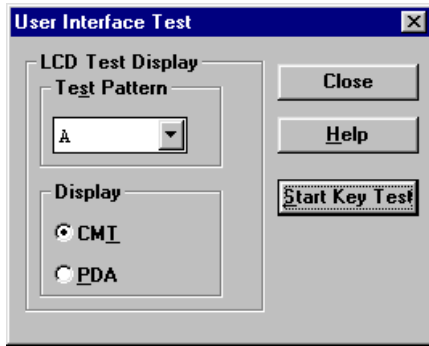

Figure 2. User interface test dialog
4. Click the "Stop key test". Result window (Figure 2) appears.